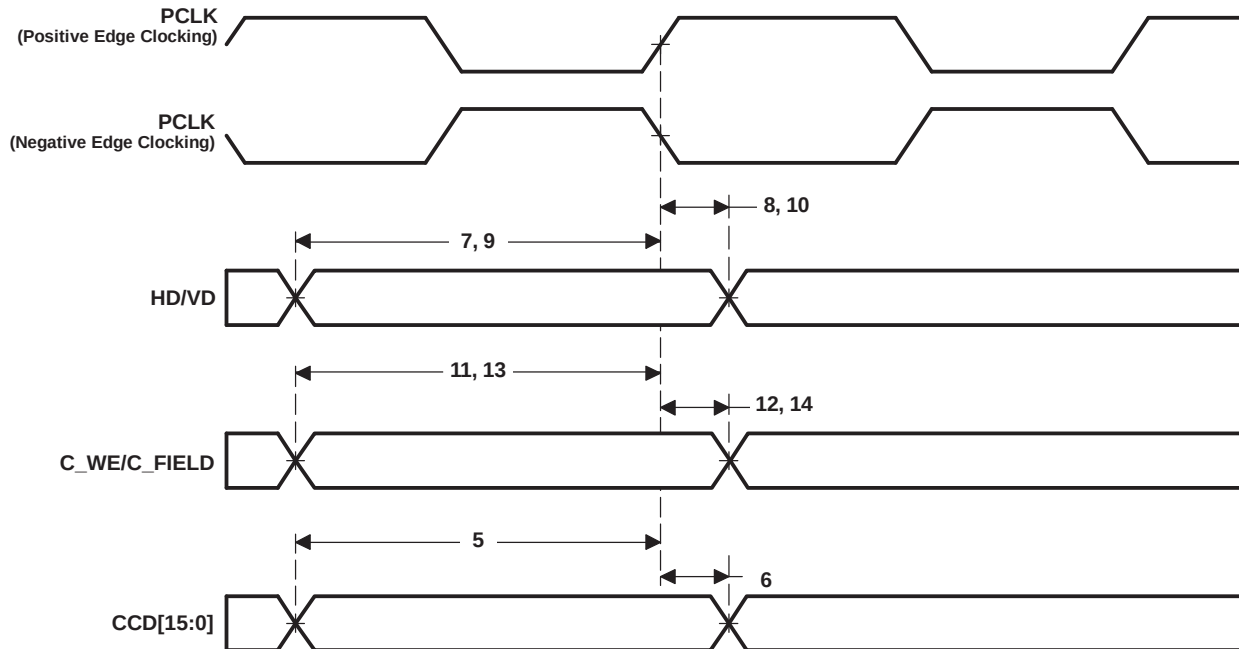

Figure 6-20. VPFE (CCD) Slave Mode Input Data Timing
**Table 6-36. Timing Requirements for VPFE (CCD) Slave Mode(1) (see Figure 6-20)**